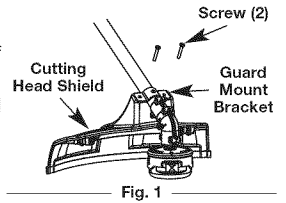

Fig. 1
1. Place the cutting head shield onto the guard mount bracket, making sure to align the holes on the shield with the holes in the guard mount bracket. (Fig. 1)